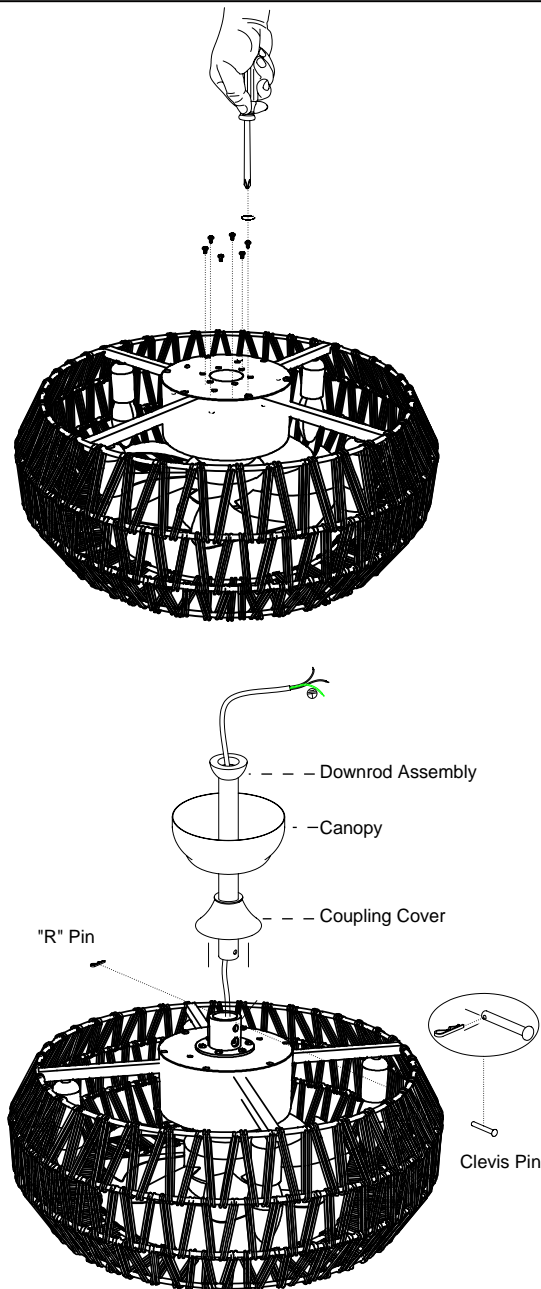

Fig. 2
Step 2. Assemble the canopy and coupling cover as Fig. 2.
Align the holes at the bottom of the downrod with the holes in the downrod hub. Carefully insert the clevis pin through the holes in the collar and downrod. Be careful not to jam the clevis pin against the wires inside the downrod. Insert the "R" pin into the end of the clevis pin (Fig. 2).